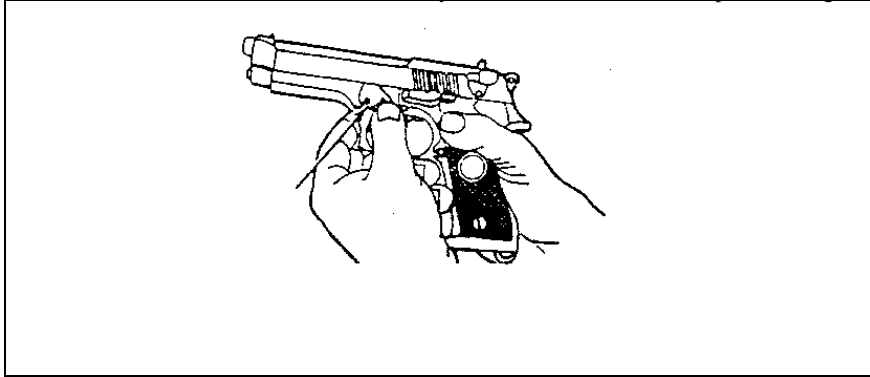

Figure 3. Rotation of disassembly lever release button
b. With the pistol in the right hand and the muzzle slightly elevated, use the left hand to depress the disassembly lever release button and rotate the disassembly lever downward until it stops. (See Figure 3.)